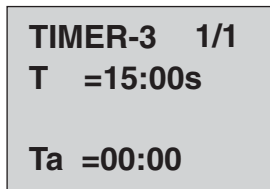

Fig. 8
8. Press **ESC** and use the arrow up/down keys **▲** or **▼** to select the next parameter to change (Timer -3). Repeat steps 4 and 5 to change the Timer-3 parameters. (See figure 8)